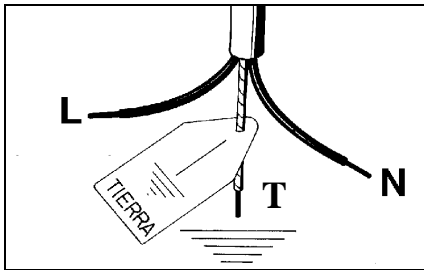

fig.16
- If the power cord is supplied without a plug, apply a standard plug that is suitable for the load indicated on the label. Connect the wires according to the diagram shown in FIG.16 and check that: